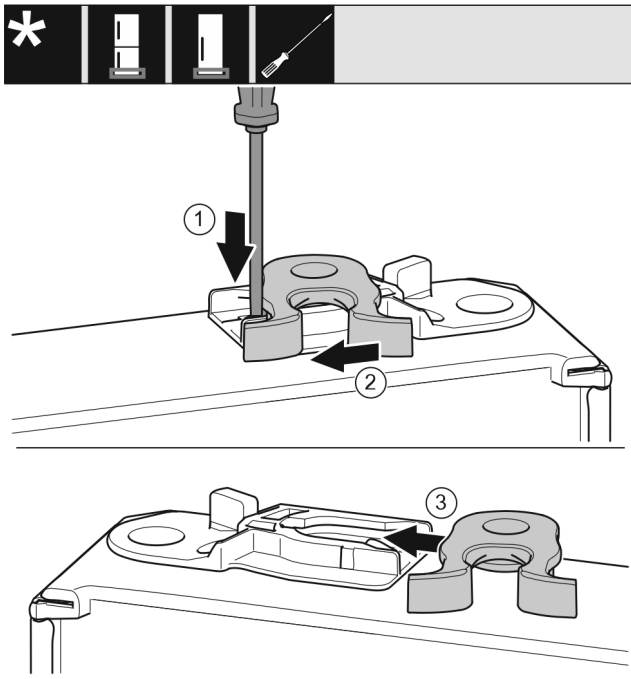

Fig. 19
- ▶ Use a slotted screwdriver to push the tab Fig. 19 (1) downwards.
- ▶ Pull the closing hook Fig. 19 (2) out of the guide.
- ▶ Insert the closing hook Fig. 19 (3) into the guide on the other side.